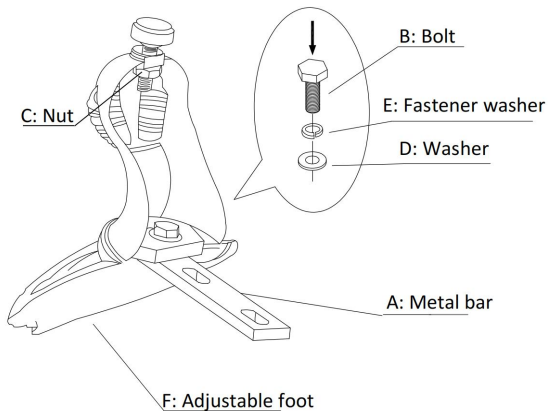

Figure 3
- ① Position the feet on the bar, fasten with washers, fastener washers and bolts, but not tighten the bolts right away. See Figure 3